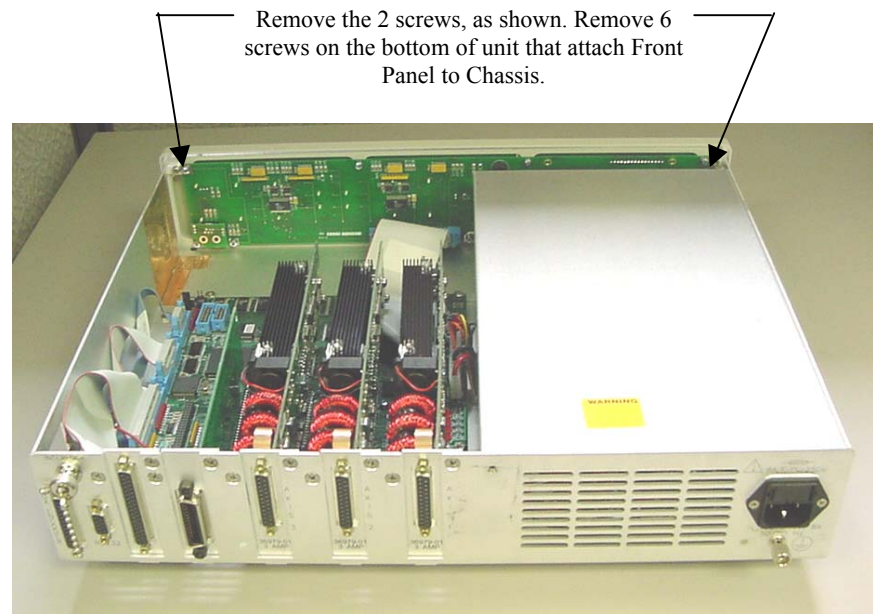

Figure E.3: How to remove screws inside the unit for the Front Panel
3. Remove the two screws as shown (See **Figure E.3**).